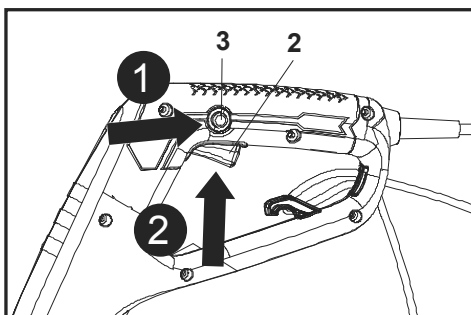

Fig. 9
1. Press the lock-off button (3) and hold it in position (Fig. 9, step 1).
2. Squeeze the on/off switch (2) to switch the product on (Fig. 9, step 2), release the lock-off button (3) afterwards.
3. Release the on/off switch (2) to switch the product off.